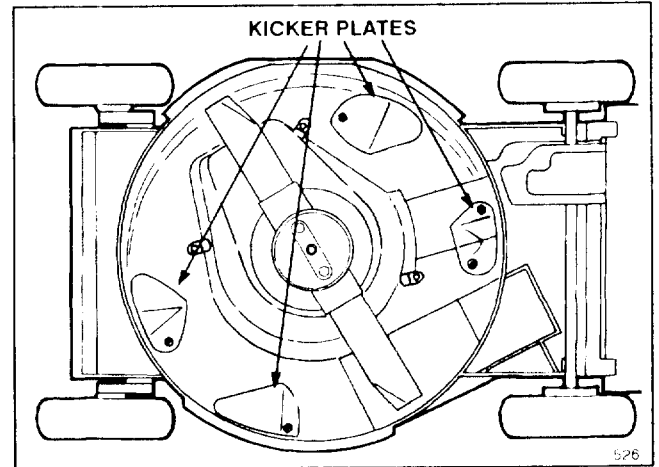

Figure 31
Keep underside of mower housing clean. Be especially careful to keep kickers on underside of mower housing free of debris (Fig. 31)
3. Tip mower on its right side (Fig. 31).